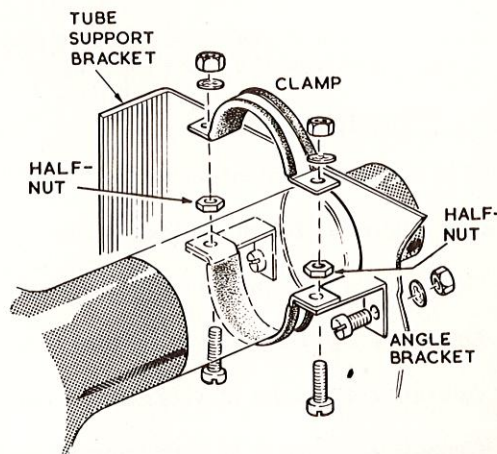

FIGURE 14
Refer to Figure 14 for the following steps:
- () Using two 4BA x $3/8$ " binderhead screws, lockwashers and nuts, mount the two small angle brackets to the tube support bracket as shown in Figure 14. Do not fully tighten the screws.
- () Referring to Figure 14, insert a length of rubber cushion over each clamp, making sure that the clamp is seated in the groove of the rubber strip. Cut off any surplus material.